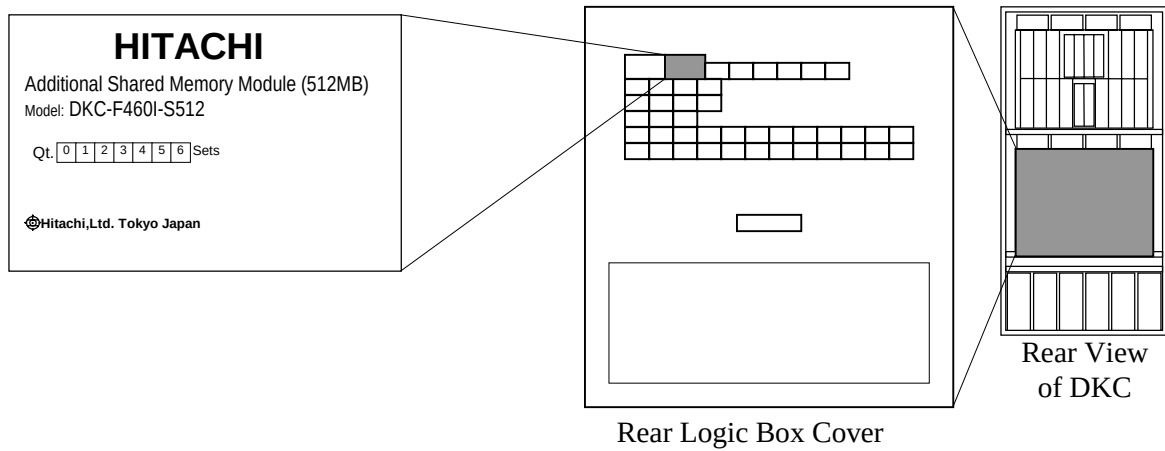

Fig. 4.3.1-7 Location of the Nameplate
Note. *1: Location ① through ⑥ represent the Shared Memory Module locations shown in Fig. 4.3.1-6.
- Refer to Fig. 4.3.1-7 and Table 4.3.1-10 to wipe off unnecessary numbers on the nameplate.